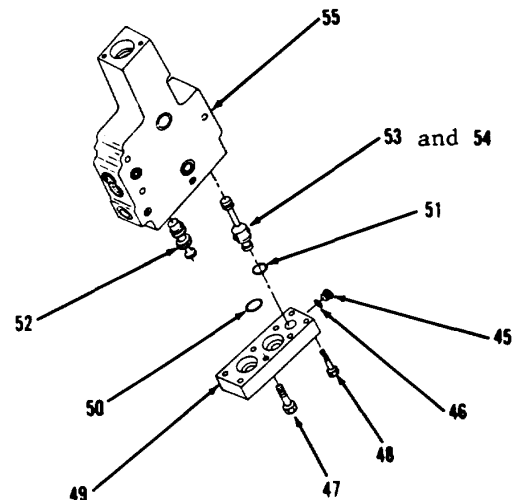
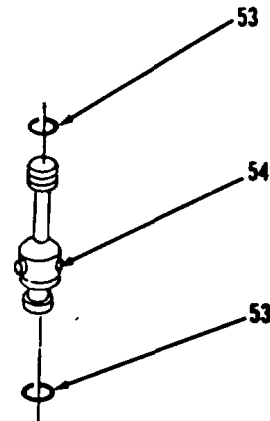

Figure 10-87.
Figure 10-88.
26. Remove plug (45) and preformed packing (46, Figure 10-87). Discard preformed packing (46).
27. Remove four bolts (47 and 48) and cover (49).
28. Remove and discard two preformed packings (50) and preformed packing (51).
29. Remove spool (52).
30. Using 8/32 2B THD screw and puller, remove items 53 and 54 as an assembly.
31. Remove and discard two preformed packings (53) from valve assembly (54, Figure 10-88).
1. Install two new preformed packings (53) on valve assembly (54, Figure 10-88).
2. Using clean oil, lubricate outer diameters of two new preformed packings (53).
- 3. Install items 54 and 53 as an assembly in body (55, Figure 10-87).
- 4. Install spool (52).
- 5. Install new preformed packing (51) and two new preformed packings (50) in cover (49).
- 6. Install cover (49) and four bolts (48 and 47).
- 7. Install new preformed packing (46) and plug (45).